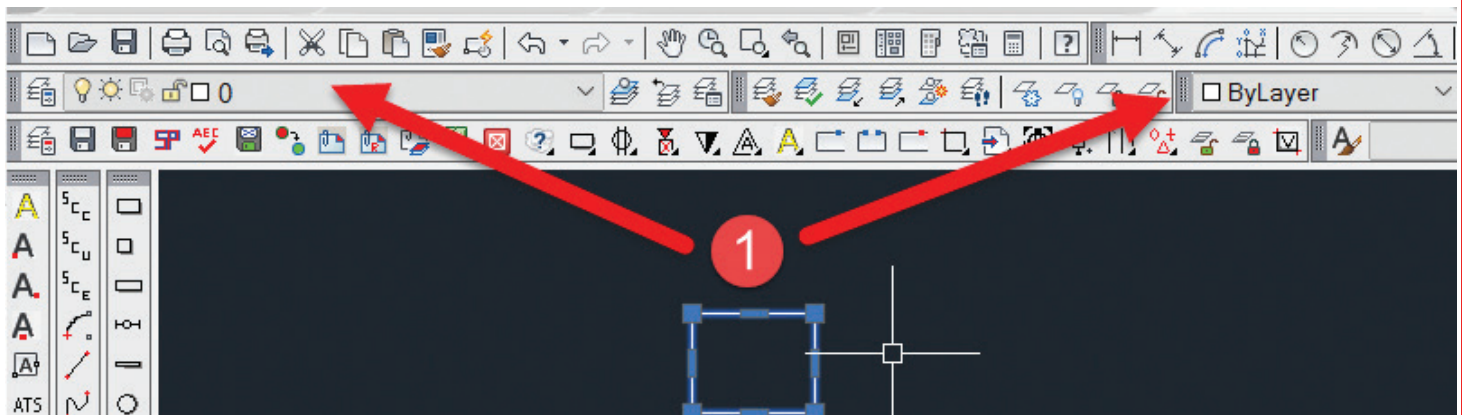

Figure 1
1. Select your rectangle that is supposed to represent a "Toaster," and change it to layer "0" and set it to Color "Bylayer" (see Figure 1)